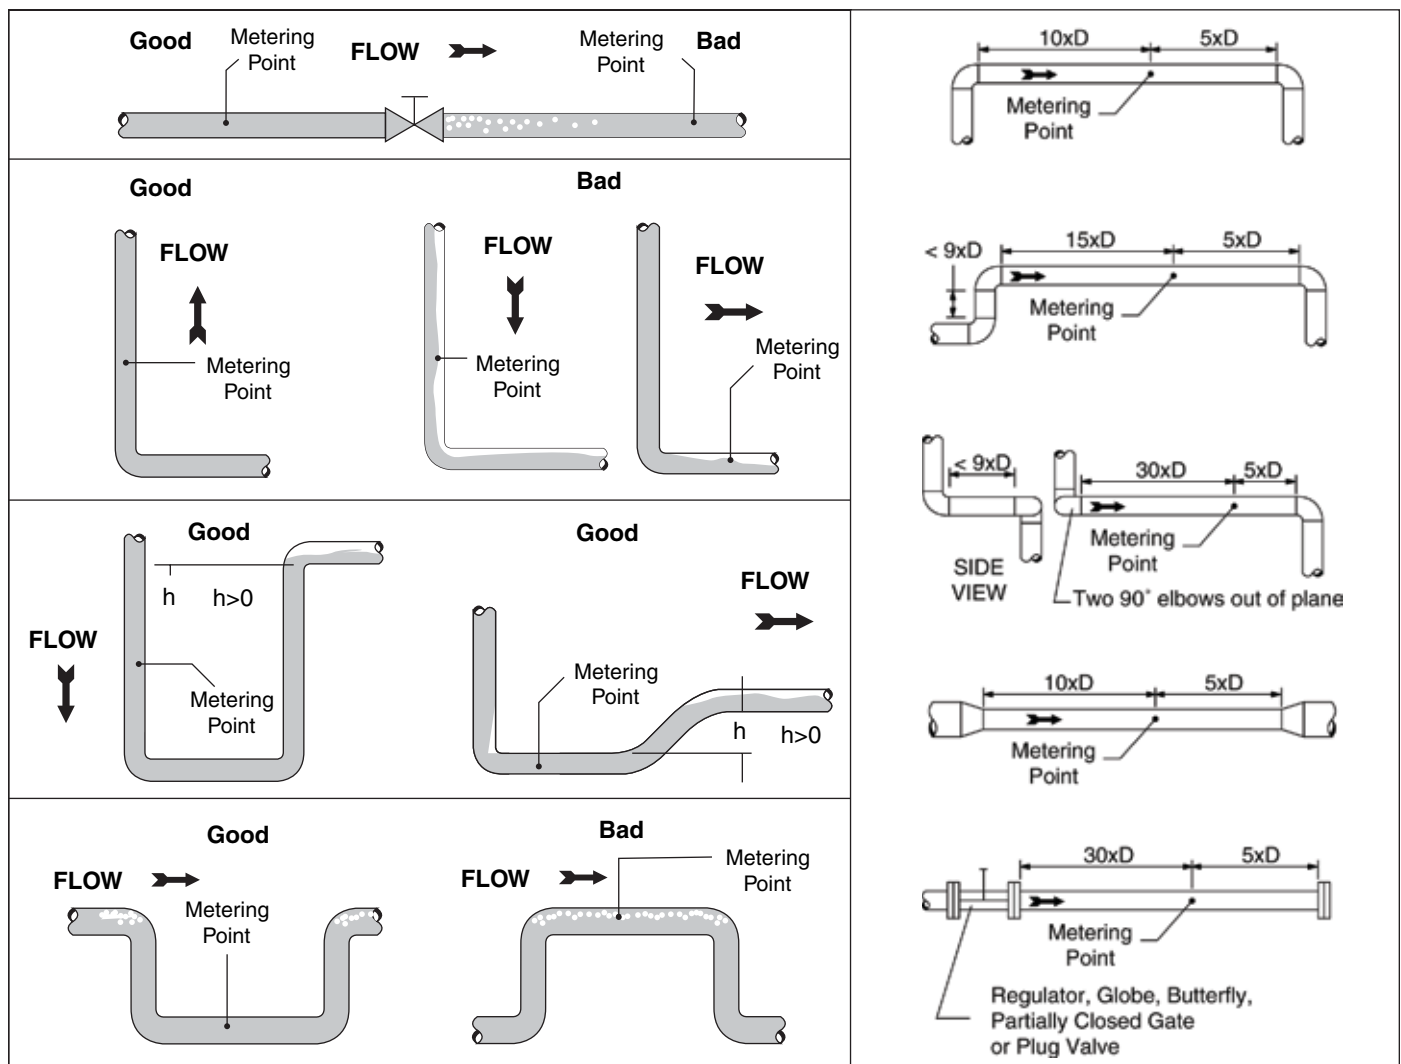

Figure 2. Flow meter location illustrations and straight run requirements
For optimum performance, you must consider straight run requirements and flow meter installation location relative to flow direction. Figure 2 illustrates possible flow meter locations. The good flow meter locations are recommended to ensure that the pipe and the flow meter will always be filled with fluid.
The straight run of the pipe must have the same nominal diameter (D) as the flow meter body. Figure 2 illustrates the minimum requirements for straight run piping.